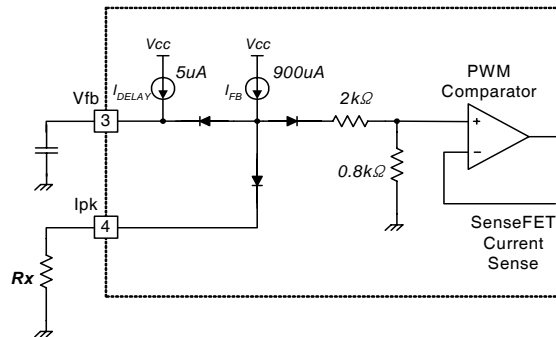

Figure 10. Peak Current Limit Adjustment
8. Adjusting Peak Current Limit: As shown in Figure 10, a combined $2.8k\Omega$ internal resistance is connected to the non-inverting lead on the PWM comparator. An external resistance of R_x on the current limit pin forms a parallel resistance with the $2.8k\Omega$ when the internal diodes are biased by the main current source of $900\mu A$.